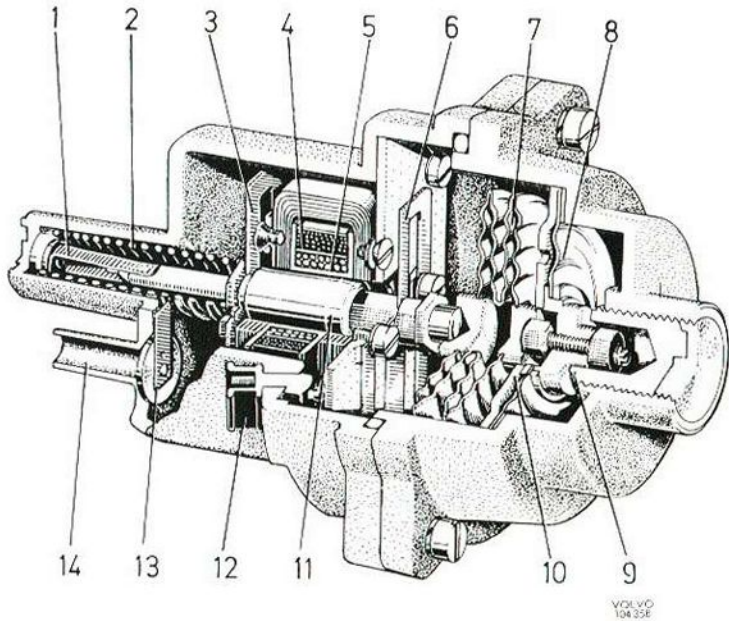

Fig. 2-166. Pressure sensor
The pressure sensor, Fig. 2-166, is built into a light-alloy housing.
When the engine is switched off, atmospheric pressure exists on both sides of the diaphragm (8, Fig. 2-166) and the movable armature (11), which is suspended friction-free in both leaf springs (3 and 6) is pressed against the full-load stop (9) by the spring (2). Moreover, both the deflated diaphragm bellows (7) are pressed together, since they are influenced by atmospheric pressure. This permits the armature (11) to move further to the right. In this position with the armature at extreme right, the pressure sensor informs the control unit that maximum possible fuel can now be injected.